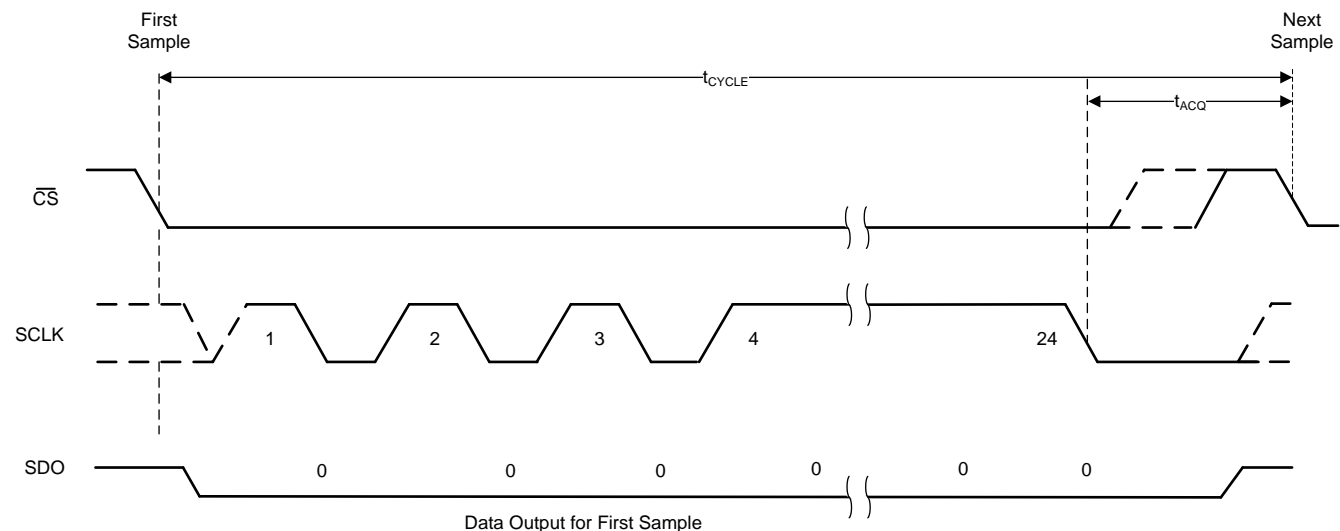
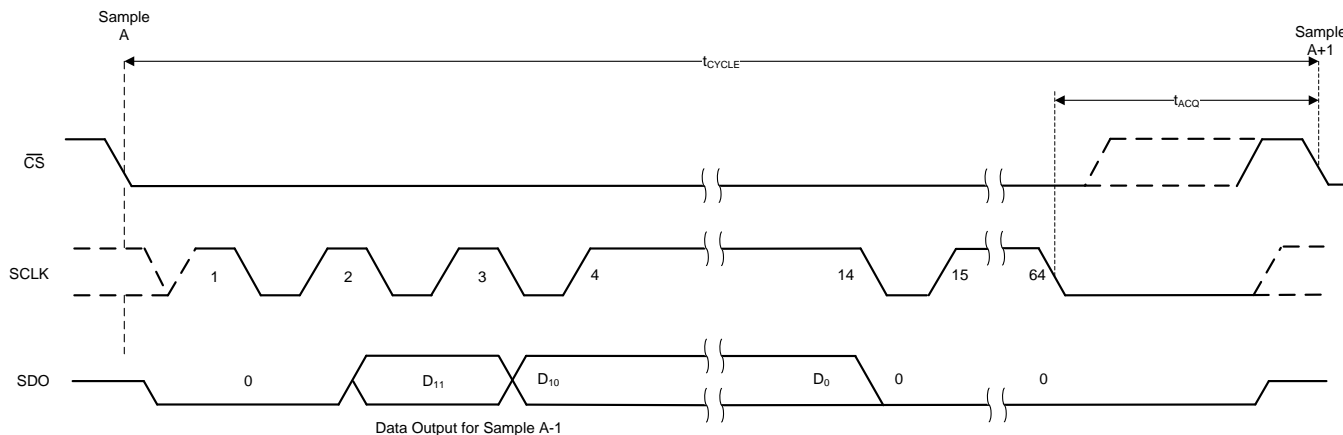

Figure 38. Timing for Offset Calibration on Power-Up
Figure 39. Timing for Offset Calibration During Normal Operation
The host controller must provide a serial transfer frame as described in Figure 38 or in Figure 39 to enter the OFFCAL state.
If the host controller starts the offset calibration process but then pulls the \overline{CS} pin high before providing 24 SCLKs, then the offset calibration process is aborted and the device enters the ACQ state. Figure 38 and Table 3 provide the timing for offset calibration on power-up.
(1) In addition to the timing specifications of Figure 38 and Table 3, the timing specifications described in Figure 2 and the Timing Requirements table are also applicable for offset calibration on power-up.
If the host controller provides more than 15 SCLKs but pulls the \overline{CS} high before providing 64 SCLKs, then the offset calibration process is aborted and the device enters the ACQ state. Figure 39 and Table 4 provide the timing for offset calibration during normal operation.
(1) In addition to the timing specifications of Figure 39 and Table 4, the timing specifications described in Figure 2 and the Timing Requirements table are also applicable for offset calibration during normal operation.